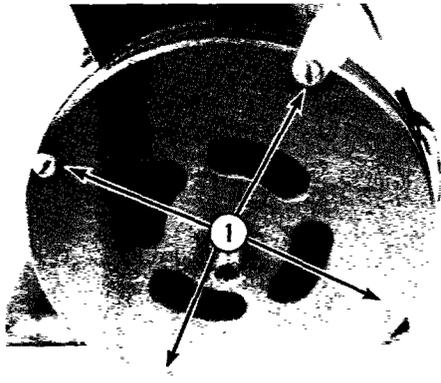

Fig. 2-13
- (4) Remove the four bolts (1, Fig. 2-13) holding the bearing brackets together.